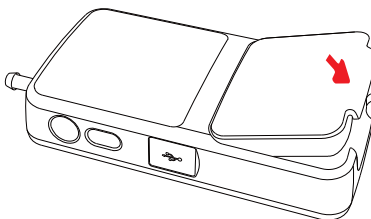

Figure 3-3 Press down the Battery Pack
4. Press down the battery pack until it is installed firmly, as indicated in Figure 3-3.